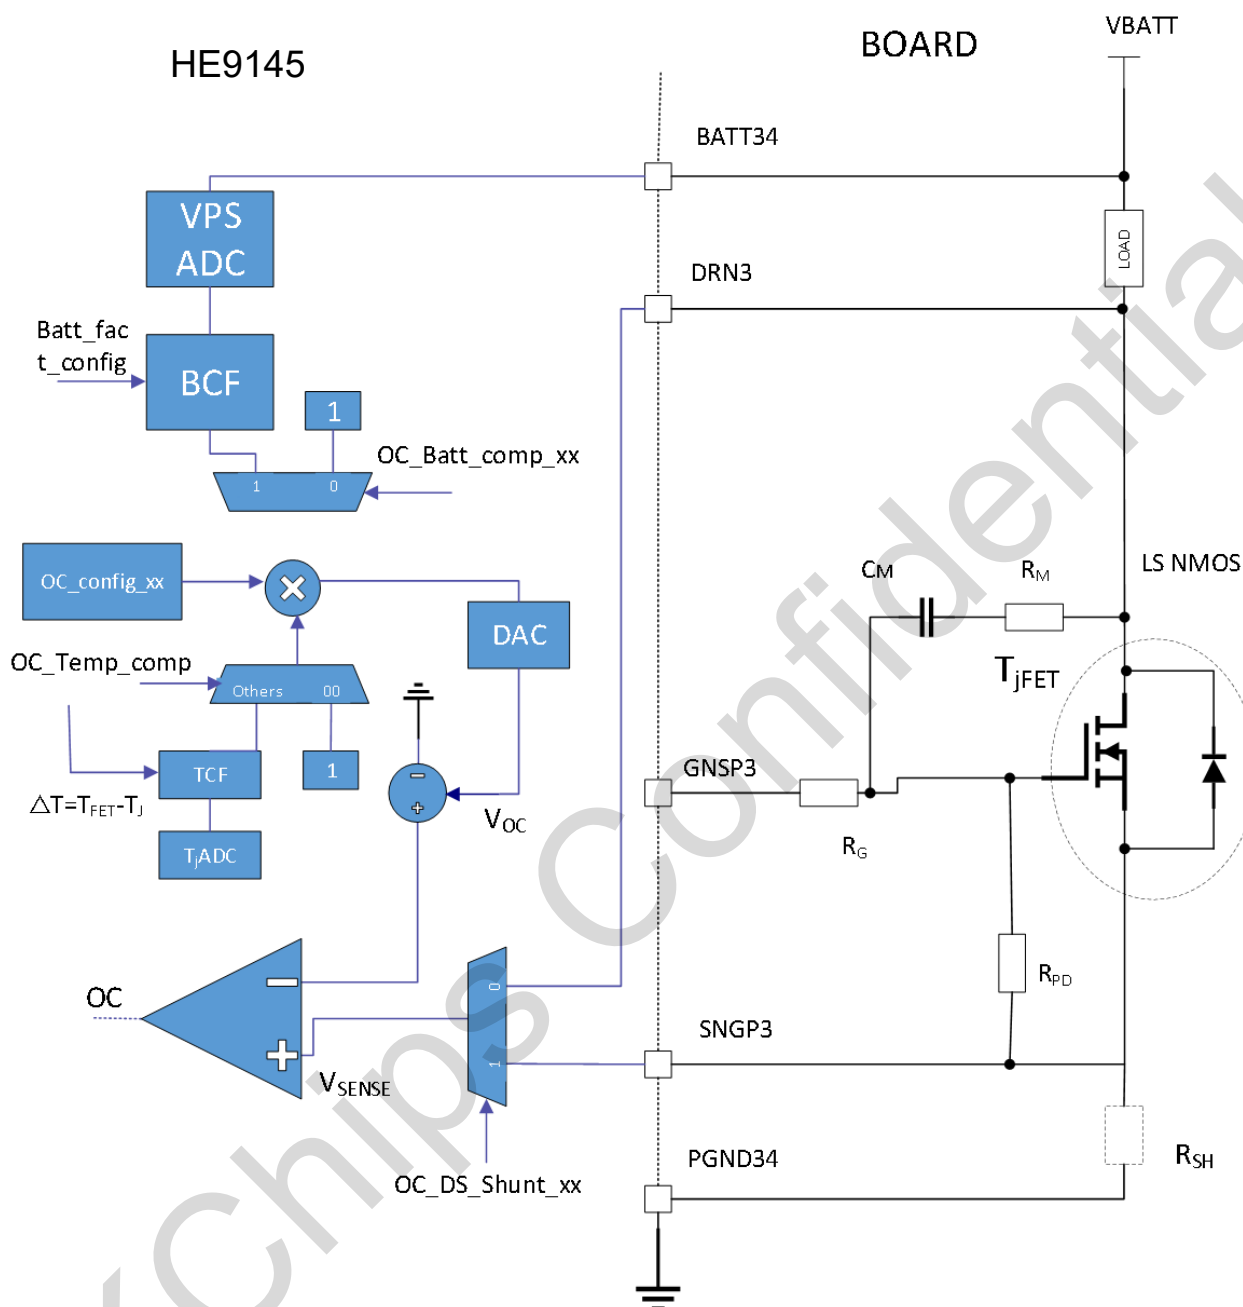

Figure 6-10 OC detection through DSM or Shunt Measurement in Low Side configuration
Eq. (6) assumes that $R_L \gg R_{OC}$. The sensing resistance R_{OC} can be either the shunt resistor or the R_{DSon} . Referring to Figure 6-10, the device measures:
Figure 6-10 shows the OC detection implementation in case of LS configuration. It can also be applied to the HS scenario with NFET (see description). In case DSM is selected RSH must not be mounted and the pins SNGPx and PGNDxx must be shorted.
Note: V_{OC} compensation against temperature and battery variations is shown in **Figure 6-10**. In case of High Side configuration with NMOS, R_{SH} and the LOAD must be swapped, and the $OC_DS_Shunt_xx$ signal is negated.